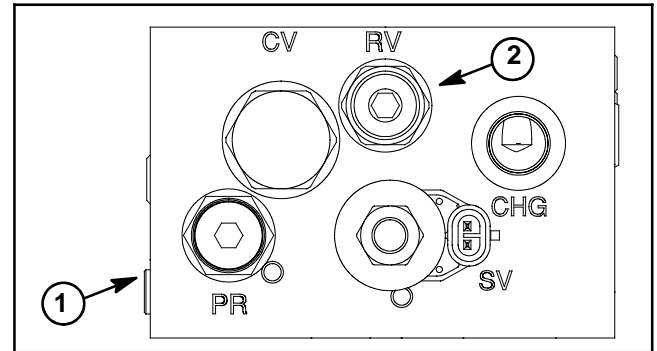

Figure 35
1. Make sure hydraulic oil is at normal operating temperature by operating the machine under load for approximately ten (10) minutes. Make sure the hydraulic tank is full.
3. Measure and record traction circuit pressure reducing valve (PR) pressure (see Traction Circuit Pressure Reducing Valve (PR) Pressure Test in this section).
4. Connect a 1000 PSI (70 bar) pressure gauge to test port on 4WD manifold under radiator. This is the same pressure gauge position as used to measure traction circuit pressure reducing valve (PR) pressure.
8. Relief (RV) pressure should be **approximately 750 PSI (52 bar) and at least 100 PSI (7 bar) higher than the traction circuit pressure reducing valve (PR) pressure** (e.g. if the pressure reducing valve (PR) pressure is 650 PSI (45 bar), relief (RV) pressure should be at least 750 (52 bar) but not much higher).
9. Relief valve (RV) is located on the front side of the 4WD manifold (Fig. 35). Adjustment of the relief valve (RV) can be performed as follows: